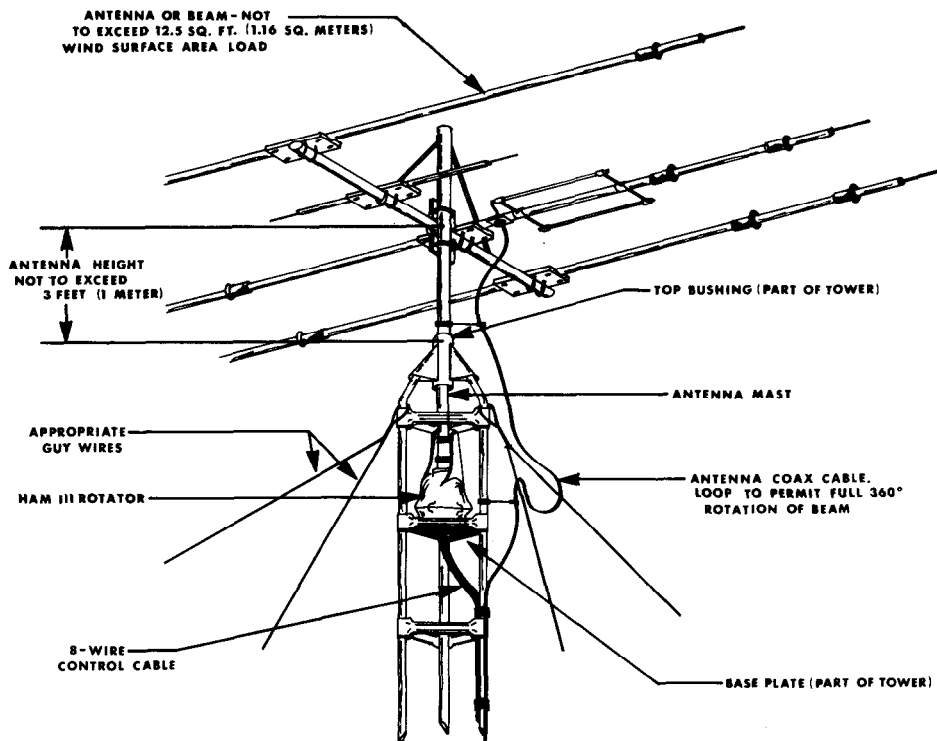
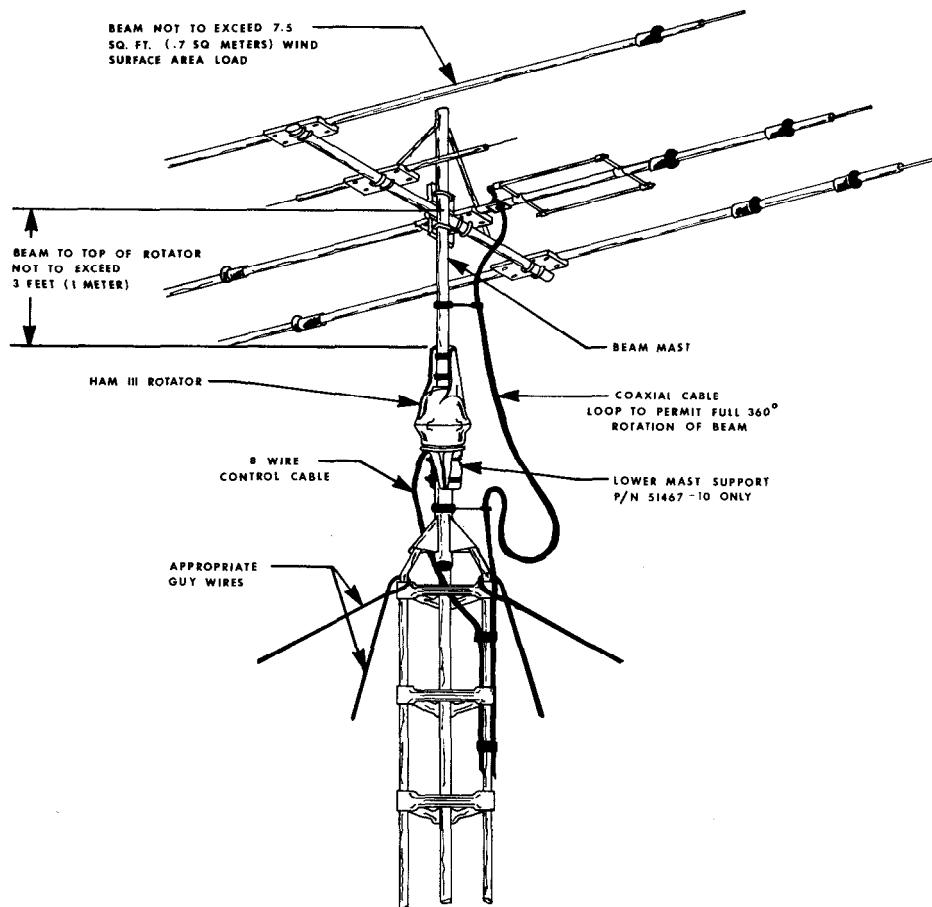
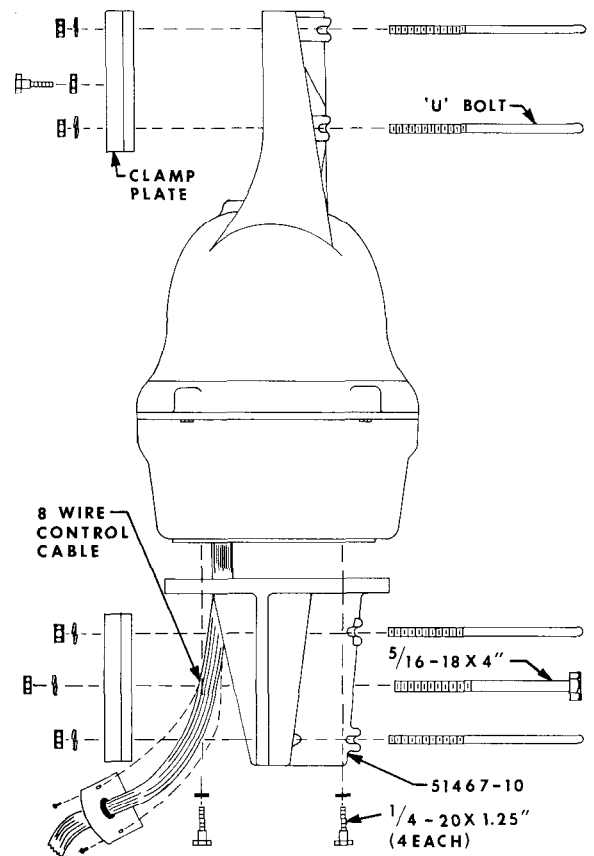

FIG. 1 - INSIDE TOWER MOUNTING
FIG. 2 - TOP OF TOWER MOUNTING
FIG. 7
- D. When not mounted within a tower with a thrust bearing as shown in Figure 1, the rotator must be **DERATED**.
- G. Optional lower heavy duty Mast Support Kit must be procured if the owner elects to use an "outside" tower mount (see figures 2 and 3). The part number for the Lower Mast Support Kit is 51467-10. "Inside" tower (figure 1) is recommended.
There are three general types of installations (see figures 1 through 3).
2. An "outside" tower mount as shown (See Figure 2) is optional. The rotator is not as well protected but the installation is simpler. The owner must procure the Heavy Duty Lower Mast Support Kit, P/N 51467-10, to install as in figure 2 and derate to 7.5 square feet.
There are variations of the above falling generally into one of the above categories. For example, the rotator may be mounted lower in the tower than shown in Figure 1. In that case, more than one bushing or thrust bearing for the beam mast may be required and longer coast down time allowed in operation. These factors are interrelated and the components must be matched together.
- A. **INSIDE TOWER** The rotator is mounted inside a tower (see figure 1) to the flat tower plate by means of four bolts furnished in the hardware kit. Use the following procedure:
9. Return the rotator to the full CCW "S" position. Mount the beam pointing South. The coaxial cable should be looped as per Figure 1 in such a manner that it will not foul or tangle when the beam turns around in a circle to the full 360° clockwise position.
Referring to figures 2, 3 and 7 an outside tower or pole mount is made in the same manner except that the rotator is fastened by four bolts to the lower mast support, P/N 51467-10. Since the eccentricity of the rotator turning in reference to the tower is no longer important, the shimming procedure is not necessary. The four screws must be torqued to the same specification, and the 8-wire cable securely fastened. The lower mast should be pinned with the 5/16" - 18 x 4" bolt as shown in Figure 7. **CAUTION:** The rotator is designed for vertical operation with the bell shaped housing in the up position. Water and other contamination will get into the motor unit if it is mounted horizontally or up-side down.
The stock HAM III is intended to mount on the base plate inside of the tower. However, in some instances outside tower or mast mounting is desired as per figures 2 and 3. This kit, part number 51467-10, contains a heavy duty lower mast support and the necessary hardware to facilitate mounting the HAM III on top of a tower stub or mast. Caution, when the rotator is installed using the lower mast support kit, the antenna size must be restricted to 7.5 square feet of wind surface area.